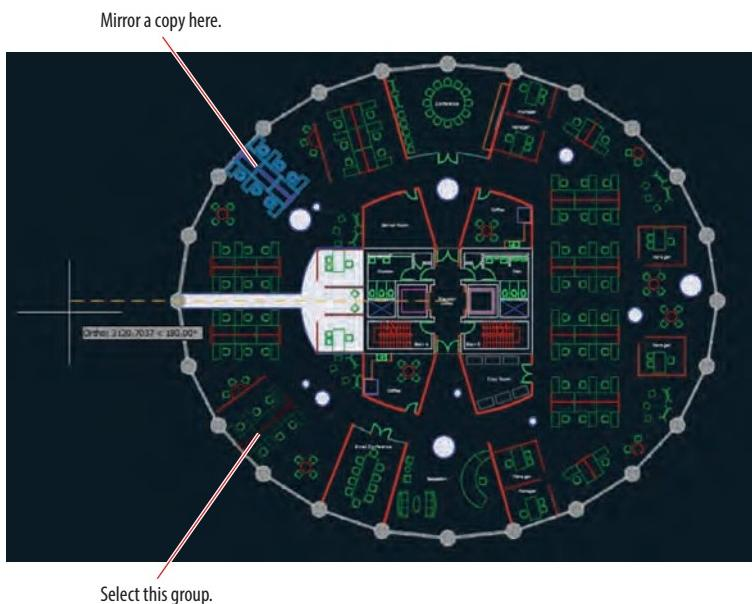

FIGURE 4.27 Mirroring a furniture grouping
5. Press Enter to repeat the MIRROR command. Double-click the mouse wheel to zoom to the drawing extents. Select the furniture system indicated in Figure 4.27 and press Enter. For the first point of the mirror line, type **0,0** and press Enter.